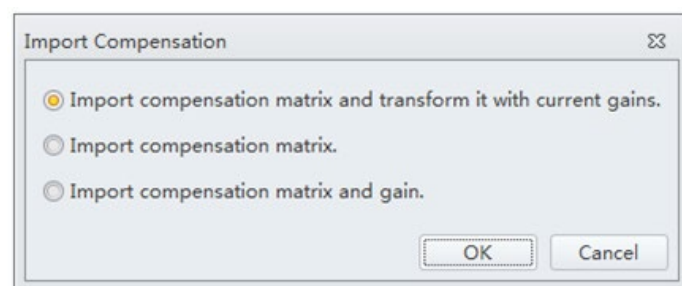

Figure 28. Import Compensation dialogue box showing the correct option selected.
- Select “Import compensation matrix and transform with current gain” and click “OK” to import the compensation values (Figure 28).